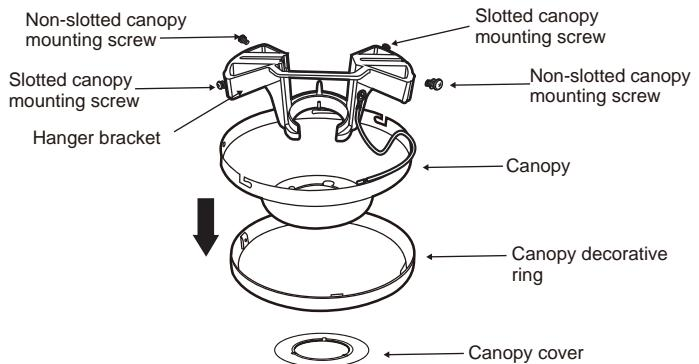

Fig. 7
(Fig. 7)
Step2. Remove canopy cover from the canopg by turning the cover counter clockwise. (Fig. 7)